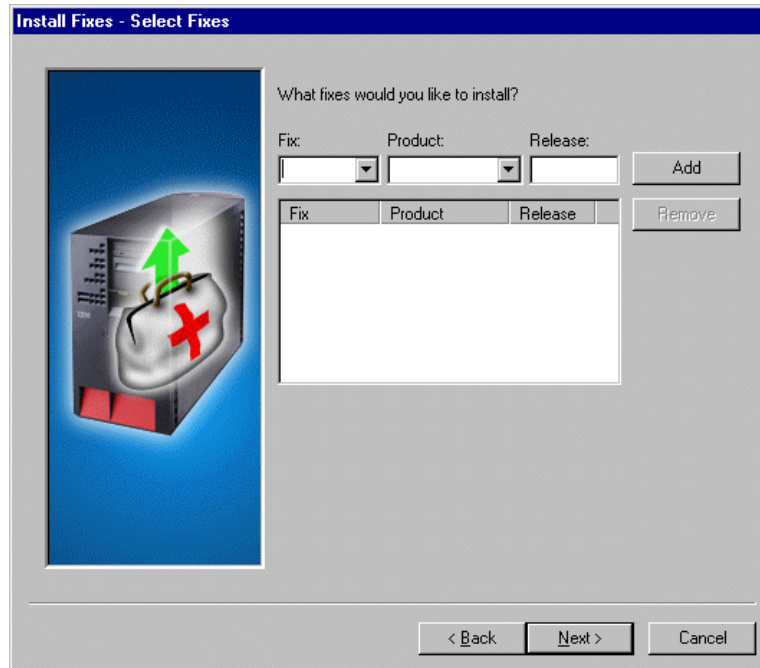

Figure 81. Install Fixes: Select Fixes window
4. Click **Next** to view the Install Fixes – Select Fixes window displayed as in Figure 81.
6. Give careful thought to your selections on this window. The default selections as shown in Figure 81 on page 105 are recommended as the least disruptive to normal operations. They also prevent the installation from failing if one or more of the fixes concerned requires that the AS/400 be restarted. Click **Next** to reach the Install Fixes – Summary window.